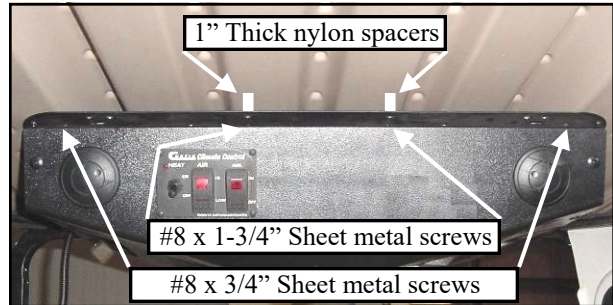

Figure 2.7 (view forward from center of seat - new style roof)
2.7 This step is only for the new style roof (44-3/8" wide, side to side at handles). With the back of the heater unit still supported, install two #8 x 3/4" long screws through the outmost two holes shown in fig. 2.7 and into the ribs in the roof. Install two #8 x 1-3/4" long screws in the center-most holes shown, through the 1" nylon spacers and into the ribs. **CAUTION: these thread into plastic. Do not over-tighten. Over-tightening may damage the plastic threads and cause them to strip out.**